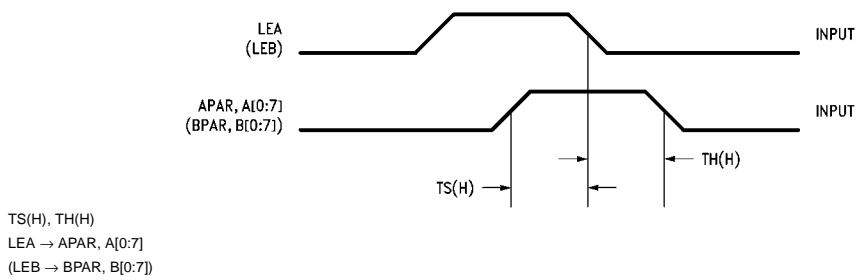
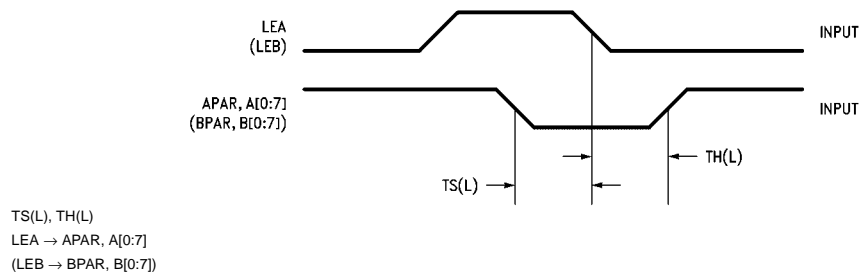

FIGURE 12.
FIGURE 13.
| t _S (H) | Setup Time, HIGH or LOW | 5.0 | 1.6 | | 5.0 | | ns | Figure 12, Figure 13 |
| t _S (L) | A _n , B _n to LEA, LEB | 5.0 | 1.8 | | 5.0 | | ns | Figure 12, Figure 13 |
| t _H (H) | Hold Time, HIGH or LOW | 0 | -1.7 | | 0 | | ns | Figure 12, Figure 13 |
| t _H (L) | A _n , B _n to LEA, LEB | 0 | -1.5 | | 0 | | ns | Figure 12, Figure 13 |